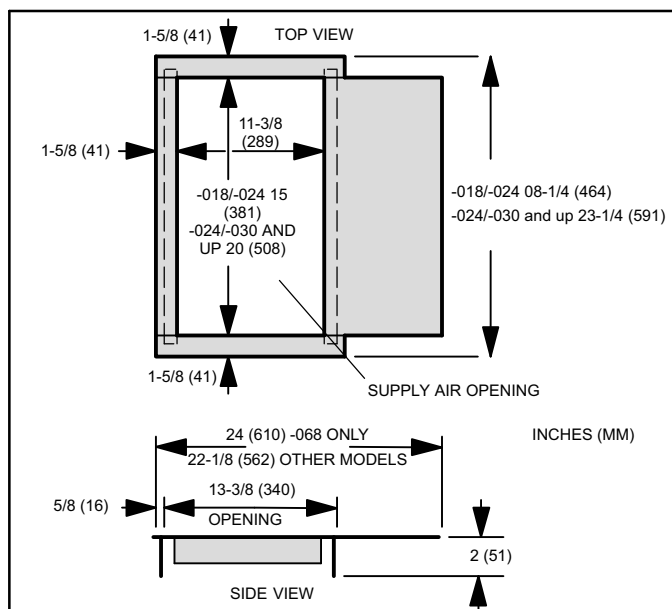

Figure 10. Downflow Combustible Base Dimensions
- Cut an opening appropriately sized for combustible base. Base dimensions are illustrated in figure 10. After opening has been cut, set the additive base into opening. Connect outlet air plenum to the additive base. Set the unit on the additive base so flanges of the unit drop into the base opening and seal against the insulation strips. The unit is now locked in place. Install return air plenum and secure with sheet metal screws.